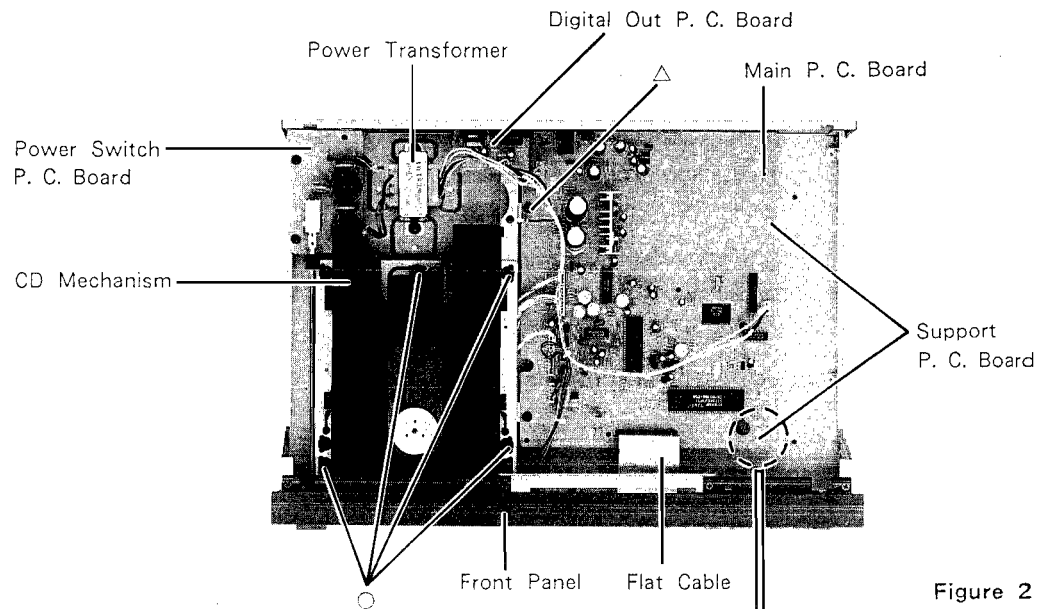
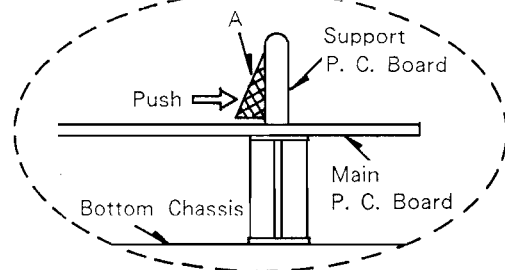

Figure 2
Figure 3
- (3) Remove four screws marked "O" as shown in Figure 2.
- (4) Disconnect all connectors from the CD Mechanism.
- (1) After removal of the tray panel, remove the front panel by disconnecting the flat cable from Main P. C. Board as shown in Figure 2.
- (1) After removal of the top cover, remove three screws marked "△" as shown in Figures 2 and 5.
- (2) Remove two P. C. Board supports from Main P. C. Board as shown in Figure 2, by pushing the point "A" as shown in Figure 3.
- (3) Disconnect all wires from Main P. C. Board.